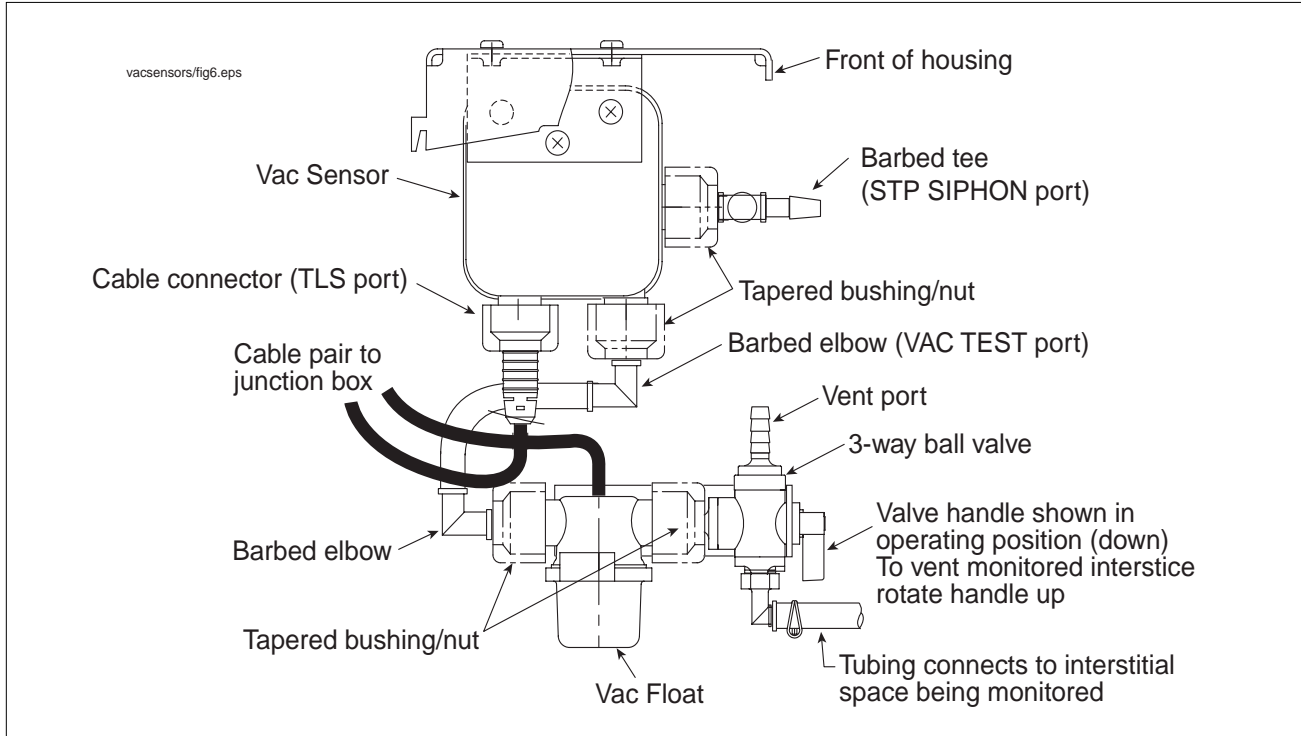

Figure 4. Vac Sensor/Vac Float tubing connections
5. Get the plastic valves, barbed elbows, tapered bushings and cord grip nuts from the Vac Float kits. Insert bushings and screw cord grip nuts into the two ports of the Vac Float. Insert a valve into one port and a barbed elbow into the other port of each Vac Float. Orient elbow and valves in Vac Floats as shown in Figure 4 then tighten nuts to secure the fittings.
- Get barbed elbows, tapered bushings and cord grip nuts (1 each for each Vac Sensor) from the secondary piping vacuum monitoring kits. Insert a tapered bushing and barbed elbow in the bottom port labeled VAC TEST (embossed on cover) of one of the Vac Sensors. Orient the elbows as shown in the Figure 4, then tighten the cord grip nut.
- From the kit's 1/4" tubing, cut a piece of the 1/4" tubing and connect the VAC TEST port in one of the Vac Sensors to the rear elbow fitting in one of the Vac Floats (preferably the one under it). Keep the connection kink free and as short as possible (see Figure 4). Repeat this procedure for each additional Vac Sensor/Vac Float pair. Skip to Step 10.
3. Get the 1/4" ID tubing from the install kit and measure a piece that will reach the barbed fitting on the bottom of the plastic valve (see Figure 4) that is connected to the Vac Sensor/Vac Float pair you labeled 'P'. Plan enough tubing so that it isn't stretched between fittings or have any sharp bends/kinks in it. Cut and install this tubing and secure tubing ends with spring clamps.